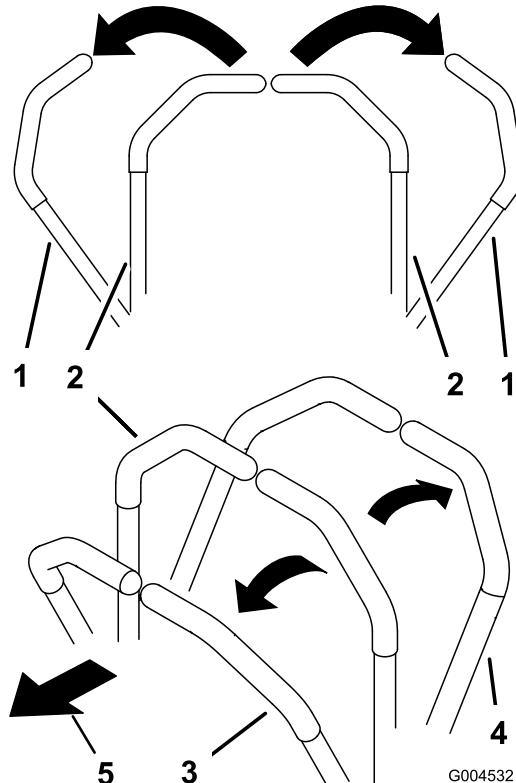

Figure 46
1. Move the motion control levers (Figure 46) out to the neutral locked position.
- To go straight forward, slowly push the motion control levers forward (Figure 46).
- To go straight rearward, slowly pull the motion control levers rearward (Figure 46).
- To turn, slow the machine by pulling back on both levers and then push forward on the lever on the opposite side from which you want to turn (Figure 46).